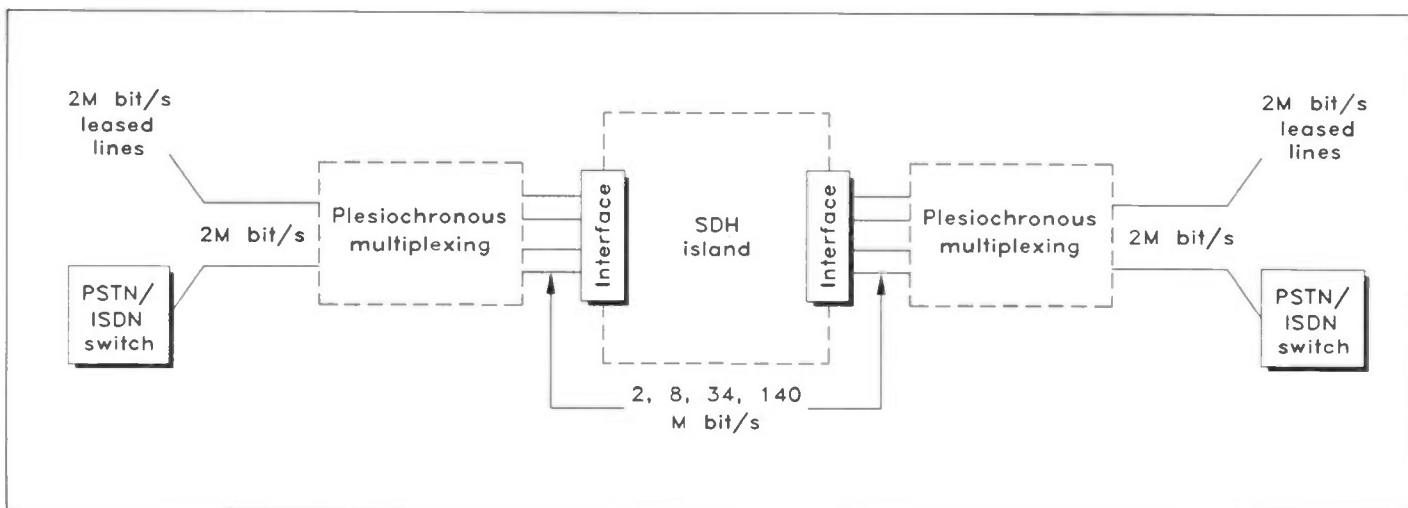

Figure 8. Early introduction supporting all plesiochronously multiplexed rates.
**Approach 2:** this is an alternative for the SDH island to support plesiochronously multiplexed server network layers (i.e., 8, 34 and 140M-bit/s) as well as 2M-bit/s in the case of the 2M-bit/s hierarchy as shown in Figure 8. Elements of existing transmission networks with this approach are replaced or added to by SDH based facilities on a functionally like-for-like basis but with the potential for management.
Plesiochronous multiplexing/demultiplexing, by definition, cannot occur in the SDH island. This approach has the advantage that the planning and routing arrangements developed for the existing network can be used in the SDH based arrangements. But there are some drawbacks: since the 8, 34 and 140M-bit/s signals are server network layers containing plesiochronously multiplexed 2M-bit/s tributaries, plesiochronous multiplexers (outside the SDH island) will continue to be required (Figure 8); and migration to an all SDH based network will require new routing arrangements to be implemented.